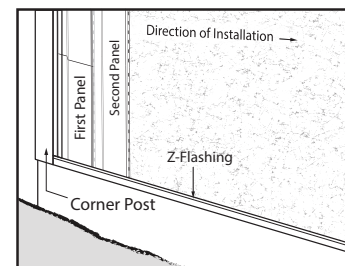

Figure 5.1.5
- a. Apply the first plank by inserting the non-nailing flange plank edge into the Corner Base or J-Channel pocket. Take care to ensure that the plank is vertically level as this is the base for all other planks that will follow. (Figure 5.1.5)